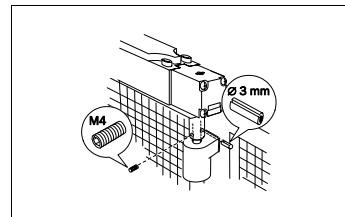

Fig. 2: Ensuring a positive fit between switching shaft and hinge
- the safety switch must be fitted with 2 M4 screws, and the screws must be tightened to 1.4 Nm (see Fig. 2).
- Connect switching shaft for the safety switch and hinge using an setscrew M4 and key Ø 3 mm (see Fig. 2).